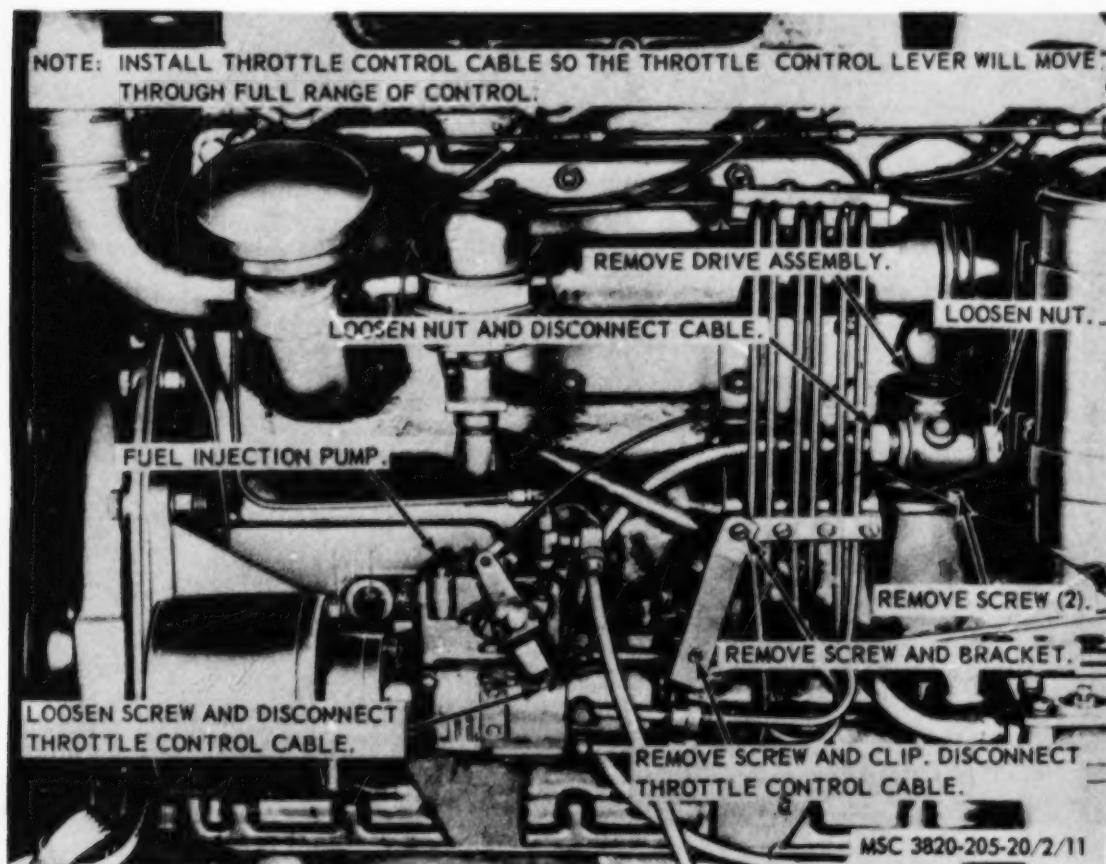

Figure 9. Tachometer drive adapter and throttle cables, removal and installation.
- (1) Disconnect the throttle control cable from the fuel injector pump as instructed on figure 9.
- (2) Connect the throttle control cable to the fuel injector pump in reverse of the instructions on figure 9.
a. *Removal.* Remove the tachometer-hourmeter and drive adapter from the instrument panel and engine block as instructed on figures 9 and 10.
e. *Installation.* Install the tachometer-hourmeter and drive adapter on the instrument panel and engine block in reverse order of the instructions on figures 9 and 10.